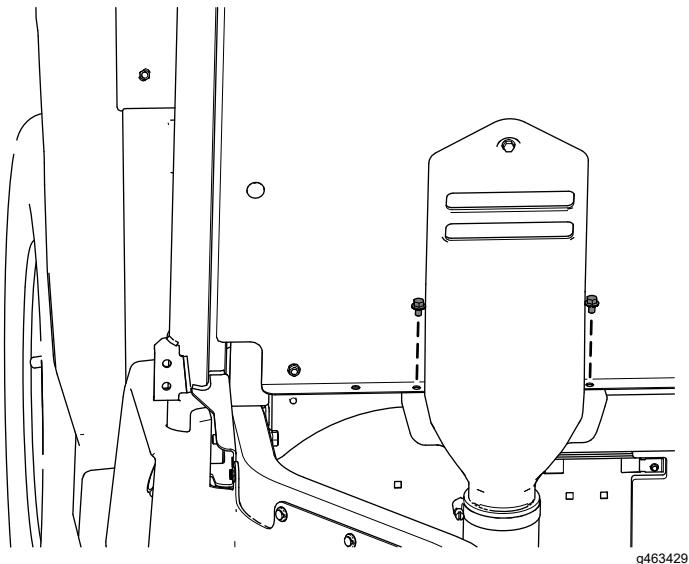

Figure 29
G. Secure the bottom of the CVT-intake hood to the seat panel using the previously-removed 2 flange-head bolts (1/4 x 3/8 inch) as shown in Figure 29.